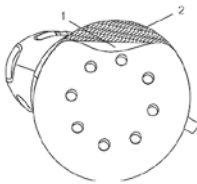

Fig. 2
To remove the sanding disc (1), simply peel the disc away from the hook and loop pad (2) (Fig. 2).